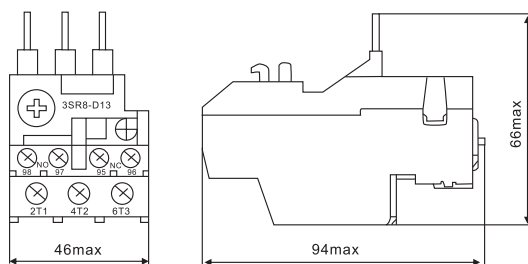
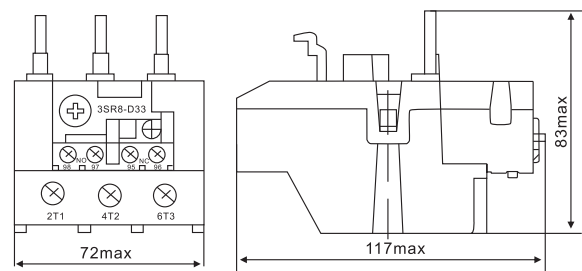

Fig 1: 3SR8-D13/Z outline dimension diagram
Fig 3: 3SR8-D33/Z outline dimension diagram
■ Product Outline and Installation Dimensions (see Fig 1-Fig 3)